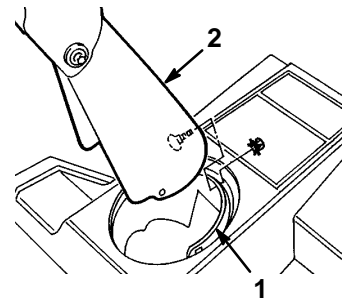

Figure 5
- Set the discharge chute over the chute ring (Fig. 5).
- Align the hole in the back of the chute with the center hole in the ring (Fig. 5)
- Install a carriage bolt and a locknut through the center holes, with the locknut on the outside (Fig. 5)